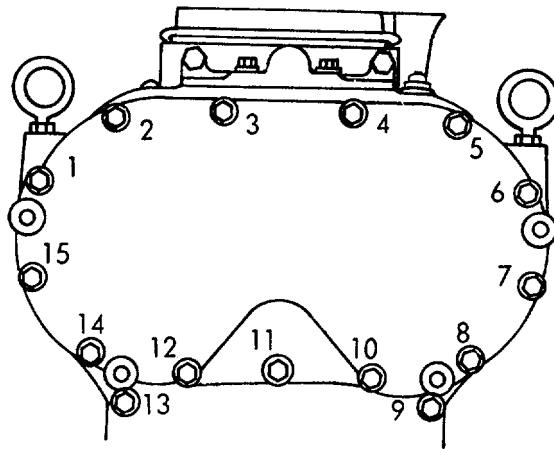

Figure 3.98. Balance weight cover, removal and installation and bolt tightening sequence.
- (1) Remove bolts and washers shown in figure 3-98 and remove the balance weight cover.
(1) Remove bolts and washers shown in figure 3-98 and remove the balance weight cover.
(2) Remove the parts, accessories and assemblies that are necessary to facilitate the removal of the flywheel housing hole cover over the camshaft and the front balance weight cover.
(3) Remove the cam followers and push rods (para 3-8).
(4) Remove the front balance weight cover and place a wood block between the balance weights (fig. 3-98).
(9) Apply grease to the steel face of each thrust washer (39 and 31) and place them so that the steel faces are against the outer end of the cam and balance shaft front bearings (1 and 32).
(10) Turn the camshaft intermediate bearings until the holes in the bearings are in alignment with the threaded holes in the cylinder block. Install the lock screws and tighten them to 15-20 ft-lb torque.
(11) Install the front balance weights on the shafts.
(12) Place an internal tooth lock washer (36 and 37) on the end of each shaft and start the nuts (34 and 35) on both shafts.
(13) Use a wood block, figure 3-98 between the balance weights or wedge a clean cloth between the cam and balance shaft gears to prevent their turning. Tighten the nuts to 300-325 ft-lb torque.